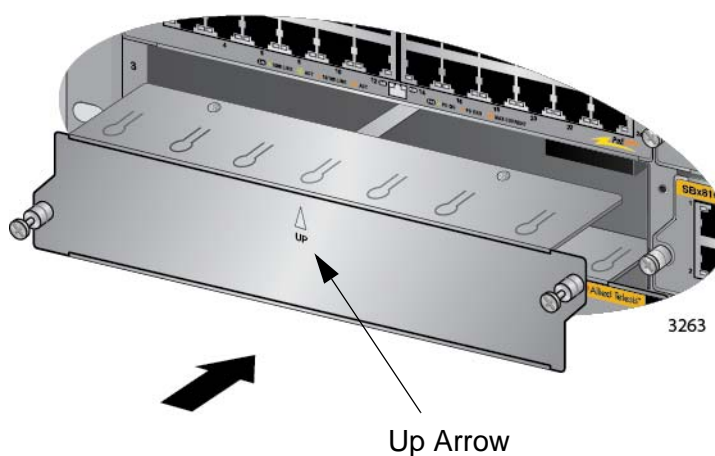

Figure 71. Installing a Blank Slot Cover
1. Position a blank slot cover over an unused slot, as shown in Figure 71. The up arrow on the panel must be pointing up.